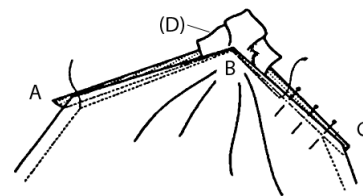

Figure 35
3. With garment side up, using short machine stitches, machine stitch from point A to point B. Stitch one stitch across point at B. Stitch to point C (Figure 35). End stitching but leave approximately 3 to 4 inches of thread at each end of seam. Repeat on the other side of gusset, stitching from point C to point D to point A.